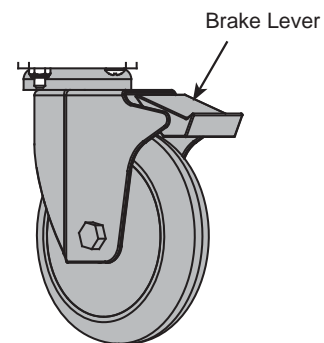

Figure 9
1. To lock the wheel direction, align each wheel with the cart width and depress the brake lever. **Figure 9.** (Each wheel can be locked at 180° intervals)